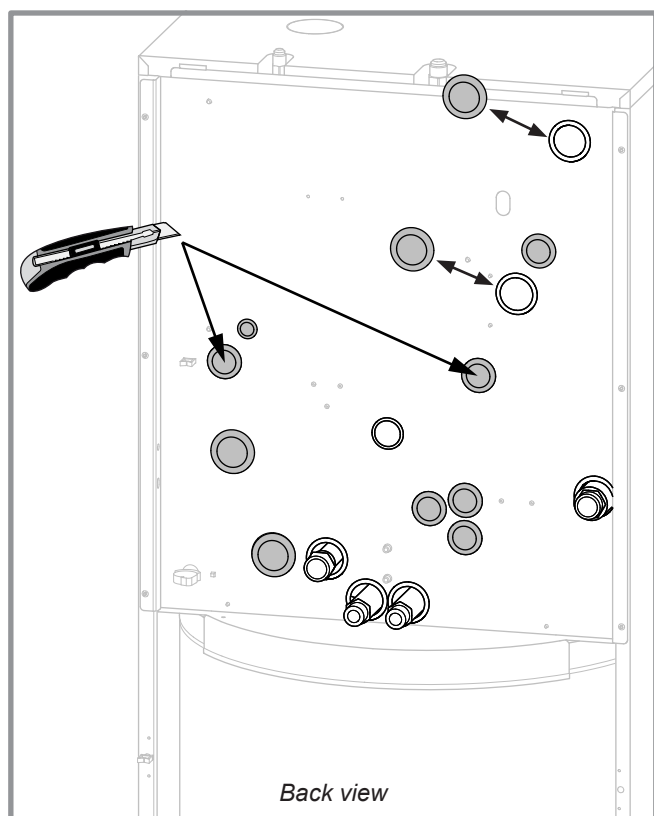

figure 3 - Pipes passages
- Replace the cable grommet with membrane by the cable grommet included in the kit (see figure 3).